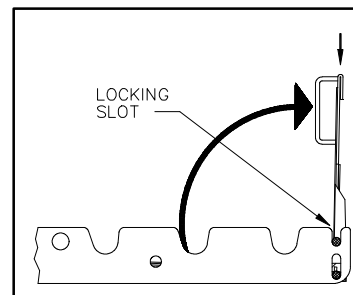

FIGURE 3-15: RAISE OUTER ROLLSTOP
- 5) Refer to **Figure 3-15**. Grasp rollstop handle and raise outer rollstop to vertical position, then drop it into locking slots. Test rollstop to be certain it is locked in place.